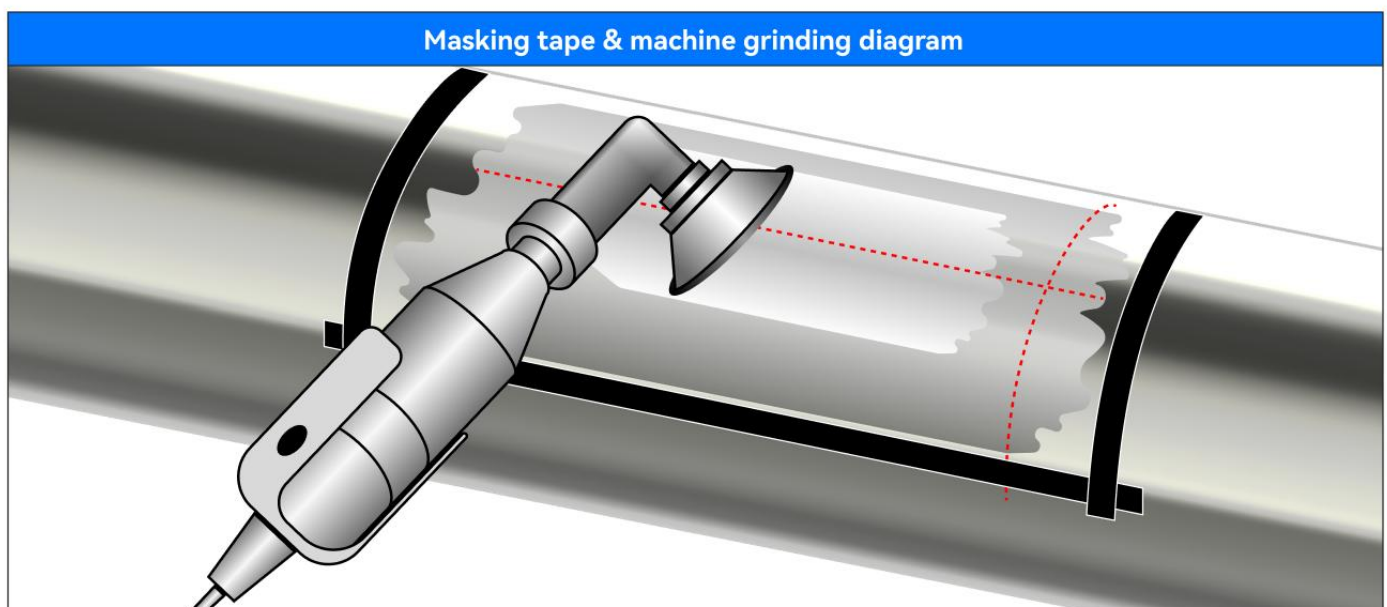

Figure 3.16
6. Guided by the transmitter unit, use masking tape to roughly indicate the area to be cleaned, as shown in Figure 3.16. This area should be close to the perimeter line marked for the rotor assembly so that the transmitter can be easily connected to the rotor assembly after installation.